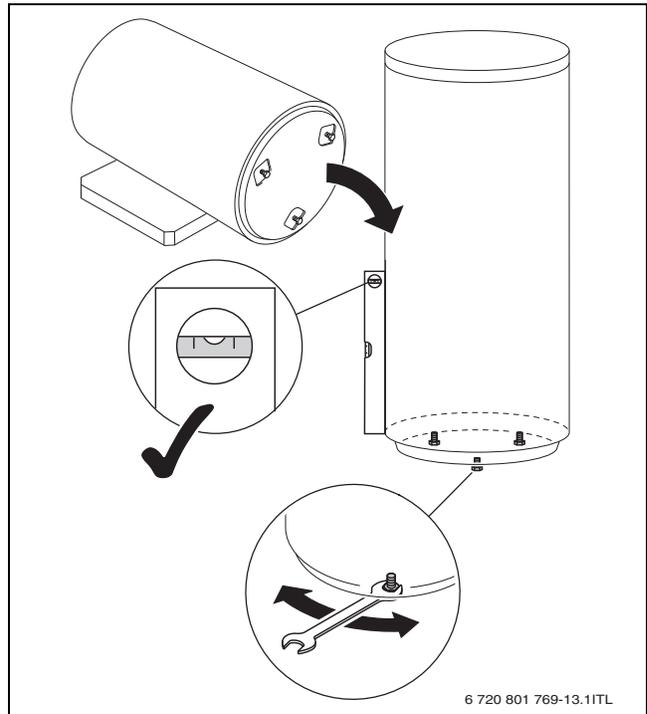

Fig. 8 Positioning the tank
- ▶ Position the tank on a level floor that has adequate load-bearing capacity (→ Fig. 8).
- ▶ With the aid of the adjustable feet, align the tank vertically (→ Fig. 8).